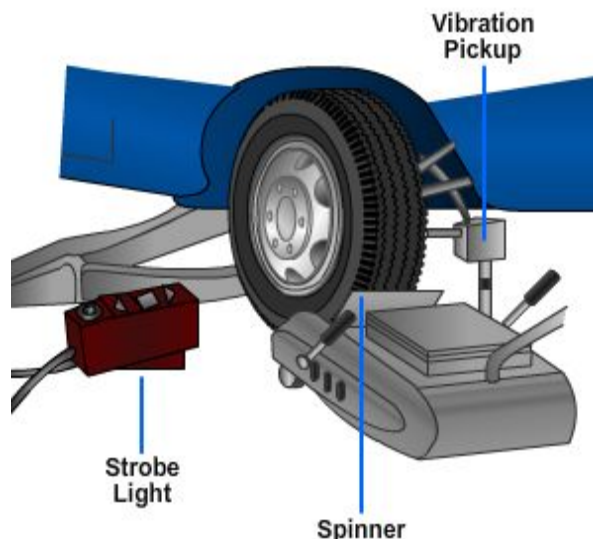

Figure 14-43 — On the vehicle balancer.
- On-the-vehicle balancer (spin balancer) is also used to balance a tire statically and dynamically (*Figure 14-43*). An electric motor is used to spin the wheel assembly, and either an electronic pick-up unit or hand-operated device is used to determine the location for the wheel weights. An on-the-vehicle type balancer is desirable because it can balance not only the wheel assembly, but also the wheel cover, brake disc or drum, and lug nuts. Everything is rotated as a unit.